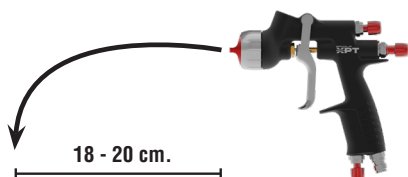

Fig.04
Position the air nozzle spraying orifices appropriately (when an imaginary line is drawn through the 2 lugs, this must be parallel or perpendicular to the floor) (Fig.04). Fully close the product regulator by turning it clockwise; and perform the desired application test, adjusting the product regulators and range as follows:
• **Changing seat valve:** For removal of the valve seat; remove the product regulator and extract the product needle and spring fitted with its stop. (See Fig.01 and 02). With a 9 mm Allen wrench, remove the guide box, extracting the valve spring and the valve (see Fig.04 , 05 and Fig.06).